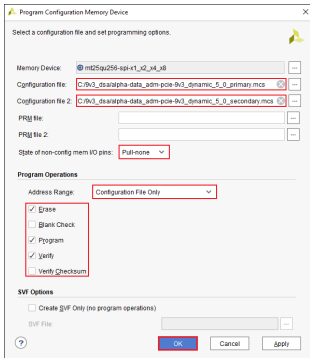

Figure 12 : The Program Configuration Memory Device window
- 11) From the **Program Configuration Memory Device** window, fill the **Configuration file** fields with the paths to the two ADM-PCIE-9V3 DSA MCS files that were copied over from the Host Machine, then make sure that the settings match those seen in **Figure 12**.